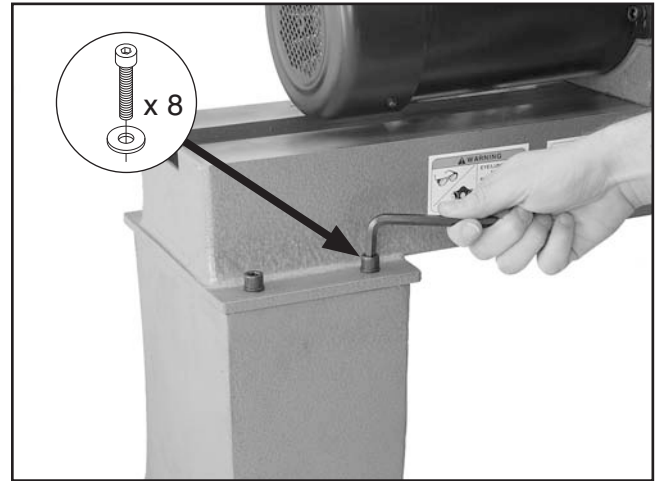

Figure 10. Securing lathe assembly.
3. Secure the lathe assembly to the supporting legs with the (8) M8-1.25 x 35 cap screws and 8mm flat washers (see **Figure 10**).